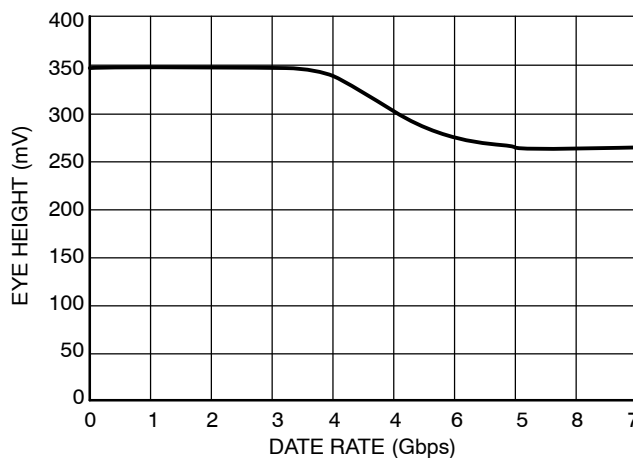

Figure 4. NB6HQ14M Eye Height vs. Data Rate
- 14. Additive peak-to-peak data dependent jitter with input NRZ data at PRBS23. For applications requiring equalization, the vertical eye height is also a critical figure of merit. See Figure 4 for equalized eye height versus data rate.